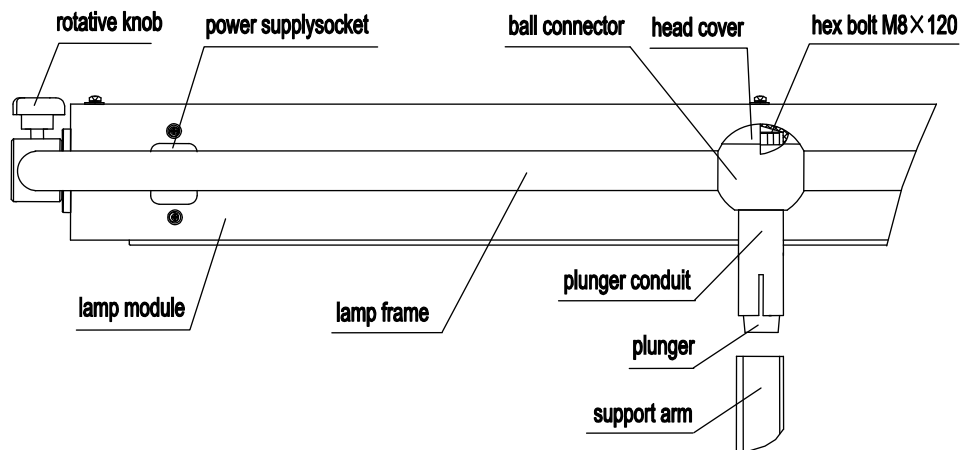

**FIGURE 4**
① Rotate the clip nut anticlockwise in figure 4, and take out the clip nut, clamping ring, clamping claw, clamping seat.
② Make the clamping seat, clamping claw, clamping ring and clip nut through the height adjustment rod, and then insert the rod inside the lamp column, and then tighten the fixed nut clockwise.